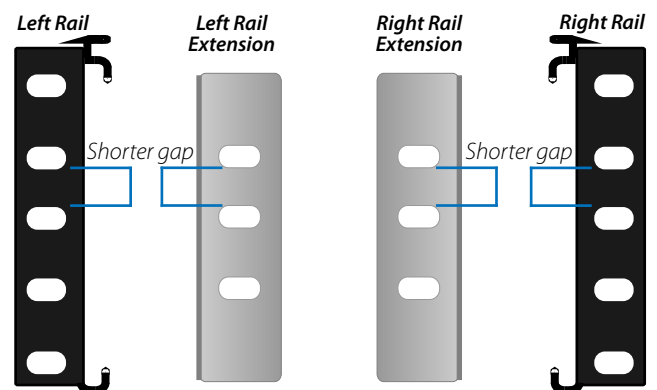

Figure 2.1d
5. Remove the rail arm extensions from the accessories box and match them to the rails. Use **Figure 2.1d** as a guide for proper matching of rails and the extension pieces.